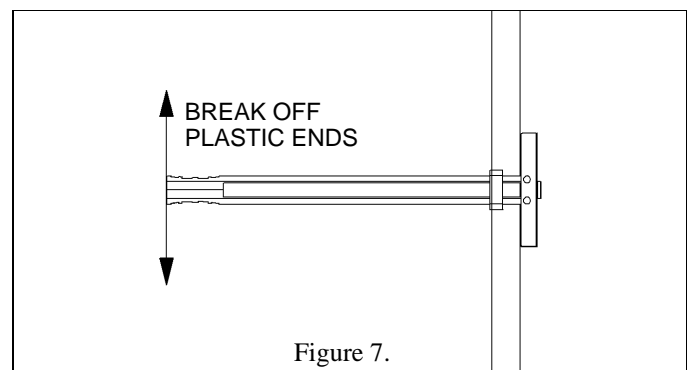

Figure 7.
5. Split finger grip ends apart to break off plastic ends flush with plastic ring of anchor (see Figure 7).